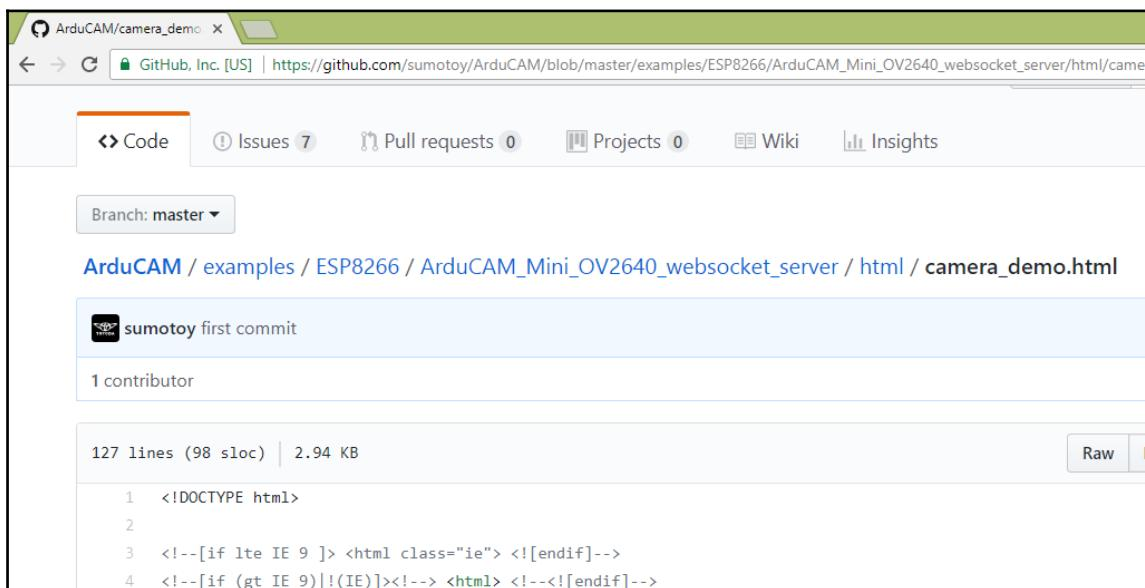

Figure 8.15: `camera_demo.html`
12. Then, open the `camera_demo.html` file located in your `examples\ESP8266\ArduCAM_Mini_OV2640_websocket_server\html` folder (Figure 8.15):